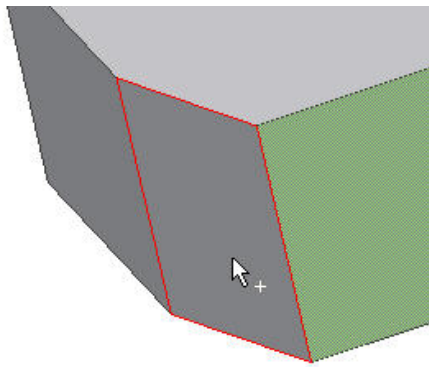

Figure 7
8. The words 0 Selected should be highlighted in blue at this time. This option allows the selection of the faces that will have a different thickness than the rest of the faces. Click on the two back surfaces to have the different thickness as shown in Figures 7 and 8.